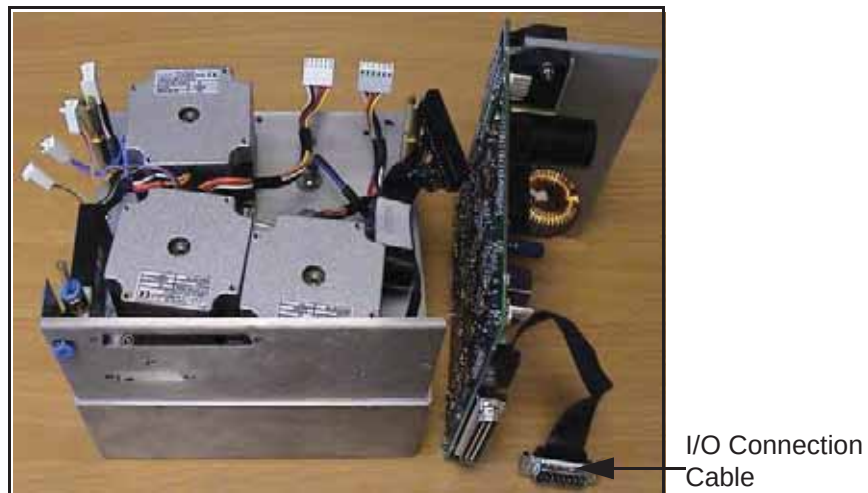

Figure 5-16: Main PCB Removed
- 6 Undo the 2 screws securing the PCB to the supports and carefully withdraw the PCB including the 15way D-Type connector for the I/O connections (Figure 5-16).